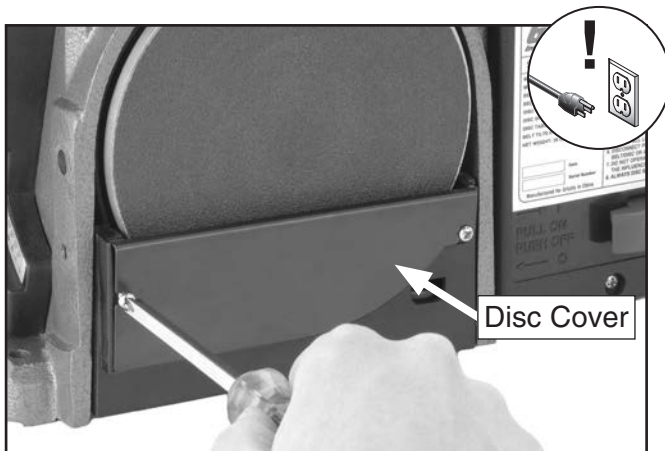

Figure 25. Removing disc cover.
2. Remove work table and disc cover (see **Figure 25**).